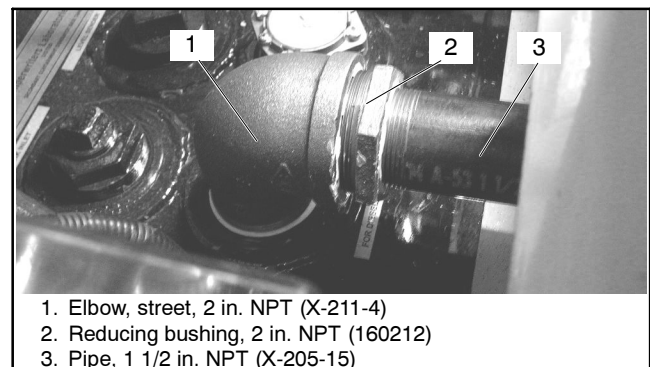

Figure 14 Secured Subassembly for Opening C
- 2.2.9 Tighten 1 1/2 in. NPT X-205-15 pipe securely. See Figure 14.